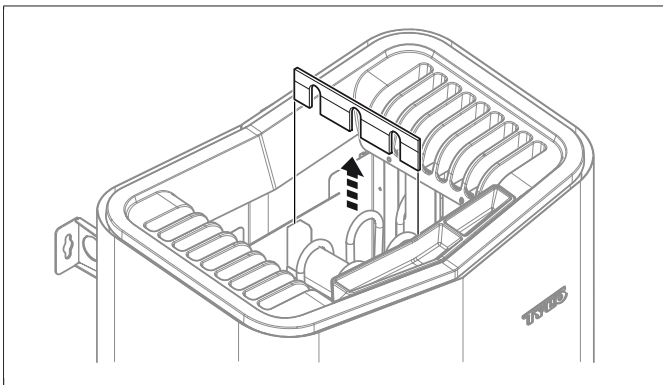

Figure 6: Remove the panel holding the tubular elements in place
1. Pull off the panel holding the tubular elements in place (see **Figure 6**, Page 4).